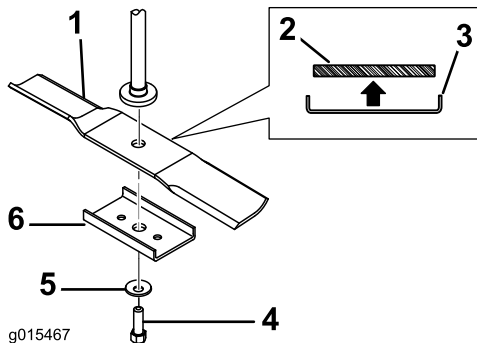
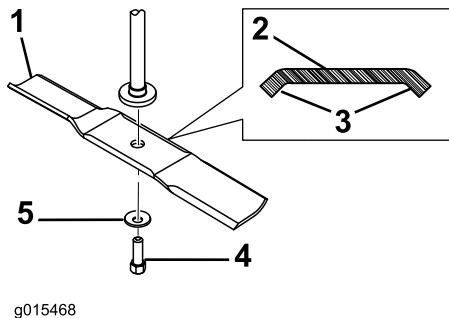

Figure 2
Figure 3
1. Choose the style of blade, of those shown in Figure 2 and Figure 3, that best matches the blades on your mower. Hold the blade end using a rag or thickly-padded glove and remove the blade as shown.